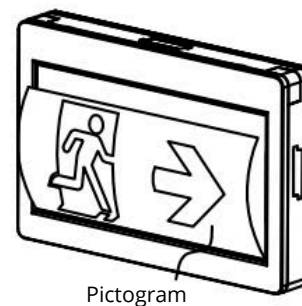

Fig.5
9. If pictogram direction assembled not suitable, pictogram can take out for change direction or replace pictogram, and then insert into the diffuser easily (see Fig.5)